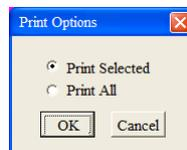

Figure 6-35 Print available options
1. Option available, this is the dialog box for print (Figure 6-35)